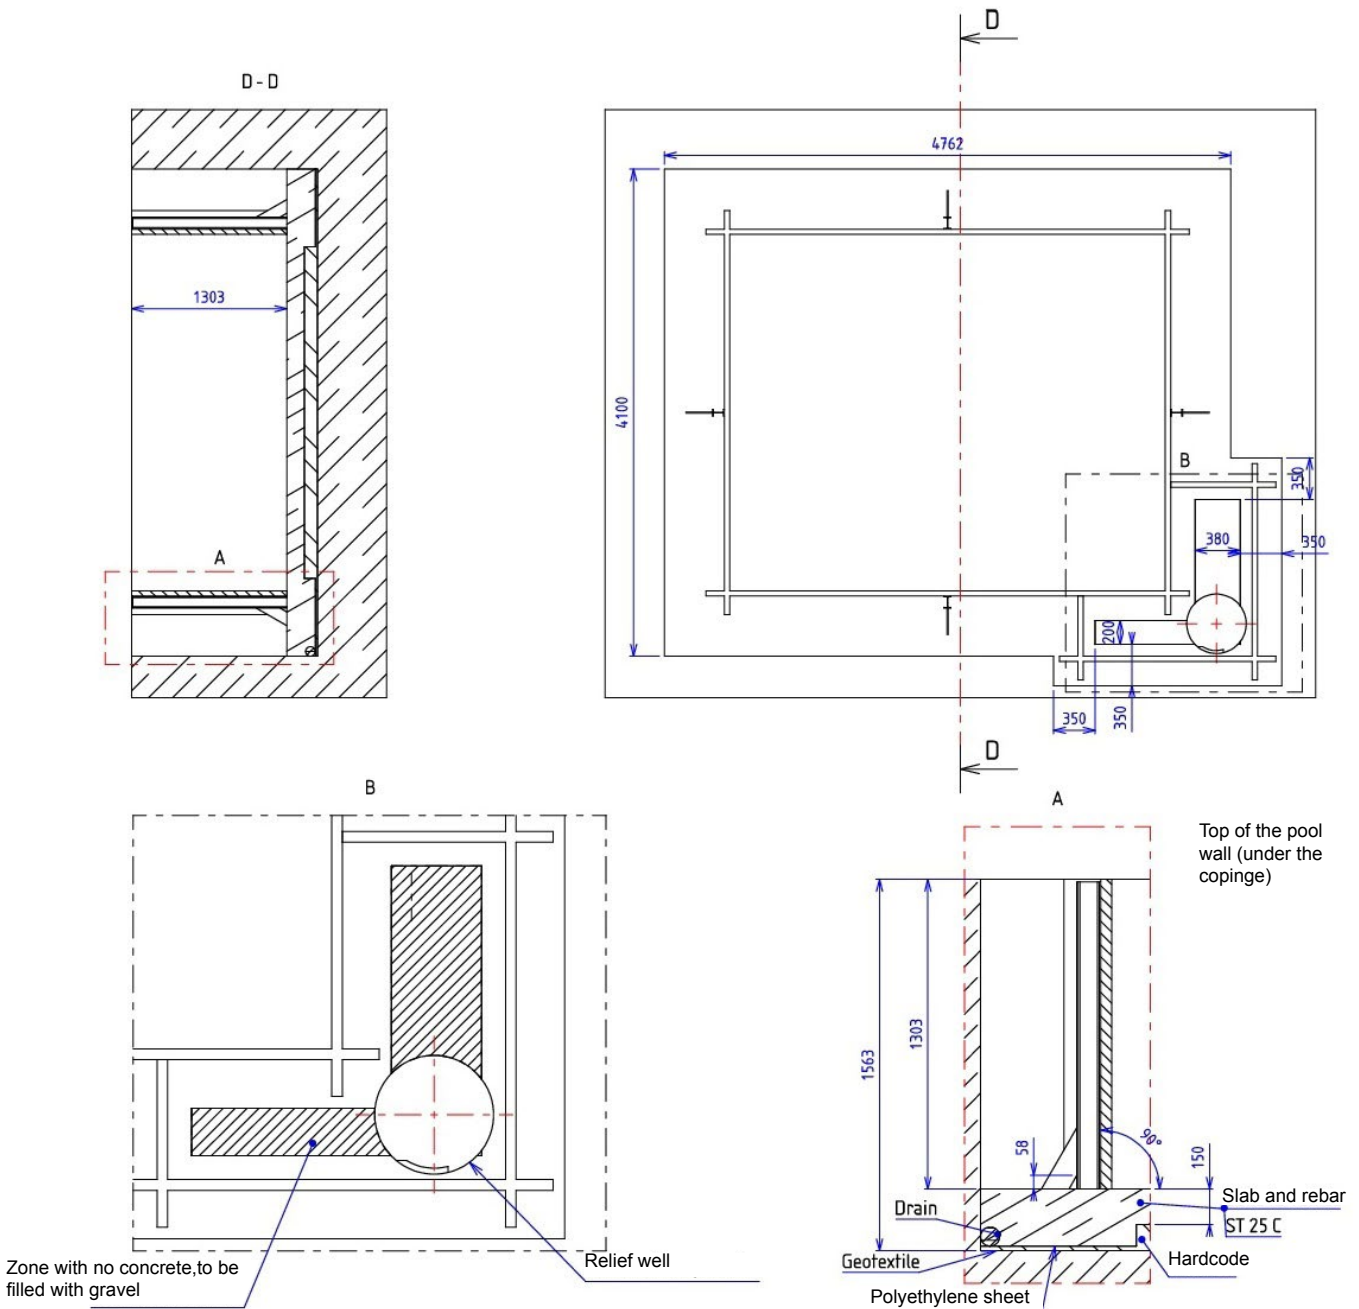

Figure 5 – Characteristics of the concrete slab
**TIP:** You can use the supporting braces to visualise how high the concrete slab should be once it has been poured. To do this, taking the top of the pool wall, below the coping, as level 0 (see *Figure 5*), measure 1.303 m and mark this distance on the front of the supporting brace. This mark will correspond to the height of the finished concrete slab.
The characteristics of the concrete slab are provided in *Figure 5*. The dimensions of the slab are such the feet of the wooden pool access ladder will not rest on the slab. However, we recommend that the feet of the ladder rest on a solid surface (cement blocks or slab for example).
While pouring the slab over the floor of the excavation, make sure that the upper rebar mesh is properly encased in the concrete: the layer of concrete above the mesh must be at least 3 cm thick. Refer to Figure 5 to determine the depth of the slab to be poured: it should be 150 mm thick, and of a height to ensure that the distance between the surface of the slab and the top of the excavation is 1303 mm if the pool is to be installed in-ground.